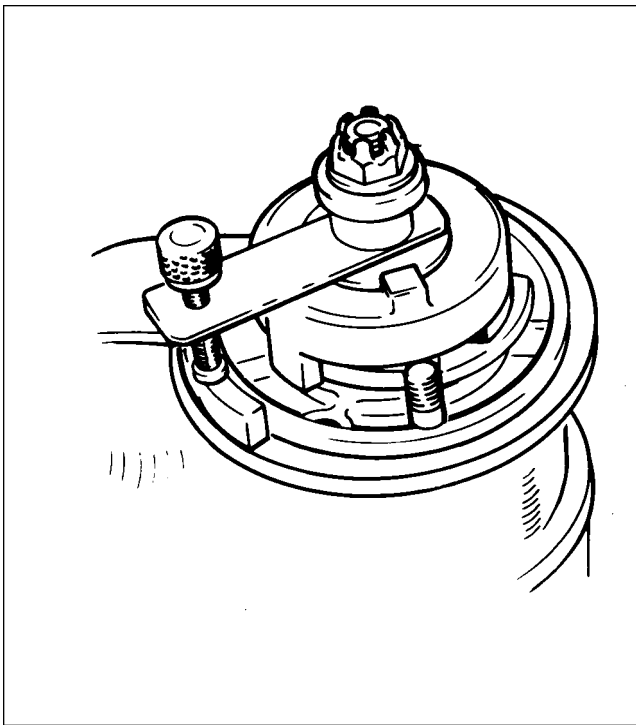

Figure 74-24. Rotor Holding Tool Installed
- A. Loosen the nut securing the drive plate to the magneto shaft sufficiently in order to install the Scintilla 11-8465 Rotor Holding Tool under the nut and flat washer as shown in Figure 74-24. Tighten the nut securely.